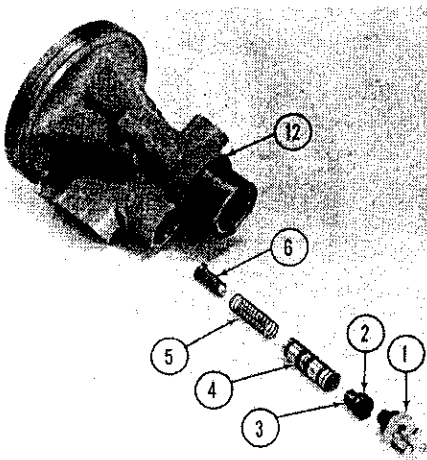
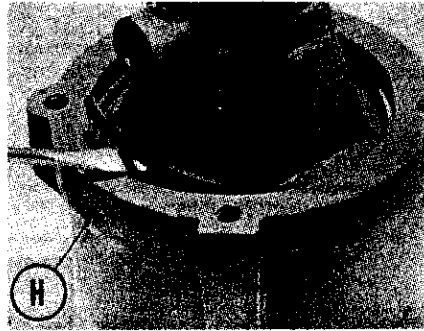
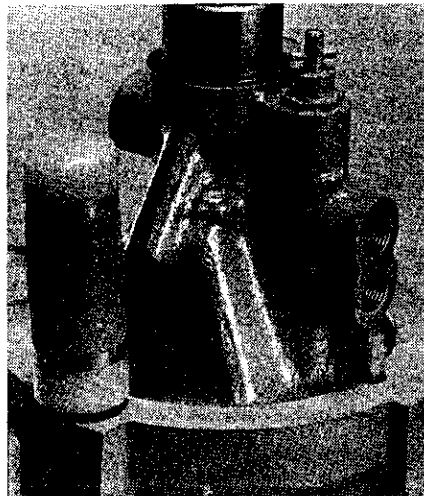
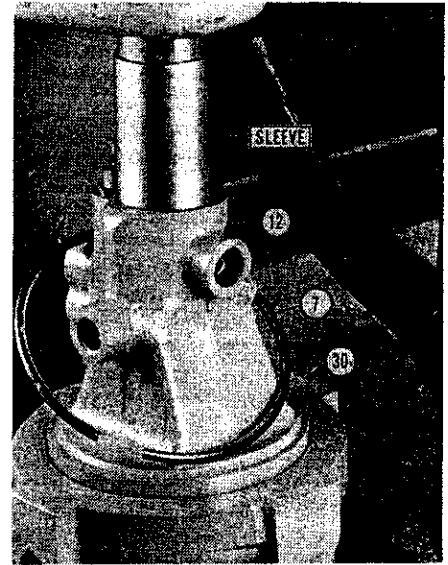

Fig. 48—Exploded view of Hydramotor housing and blocking valve components. Blocking valve can be removed without disassembly of Hydramotor.
Fig. 49—To remove cover retaining snap ring, drive pin punch through hole in cover to disengage snap ring from groove.
Fig. 50—In event coil pressure plate spring does not push cover from housing, tap alternate mounting lugs on cover with soft face mallet as shown above.
Fig. 51—Using sleeve and arbor press to push housing into cover to allow installation of the cover retaining snap ring (7).
Reverse removal procedure to reinstall the steering motor unit using new "O" rings when reconnecting fluid lines. Before reinstalling fuel tank, run engine on nurse tank to fill and bleed the power steering system as outlined in paragraph 54. After being sure no fluid leakage is occurring, reinstall fuel tank. **CAUTION:** The blocking (reaction) valve adjuster (1—Fig. 48) must be in position shown in Fig. 50 before reinstalling fuel tank.
60. R&R BLOCKING SPOOL (REACTION) VALVE. The blocking spool valve and related parts can be removed and reinstalled after the Hydramotor steering unit has been removed as outlined in paragraph 59. Refer to Fig. 48 and proceed as follows:
To reassemble, install parts in bore of housing (12) as shown in exploded view, renewing the "O" ring (2) on plug (3) and tightening adjuster nut to a torque of 10-15 Ft.-Lbs. Note: The adjuster (1) is not accessible after tractor is fully assembled; thus, the adjuster must be in position shown in Fig. 50 when unit is being reinstalled.
With unit removed from tractor as outlined in paragraph 59, check to see that end gap of snap ring is near hole in cover as shown in Fig. 49; if not, bump snap ring into this position with hammer and punch. Insert a pin punch into hole and drive punch inward to dislodge snap ring from groove. Hold punch under snap ring and pry ring from cover with screwdriver. Usually, the coil spring (27—Fig. 46) will push housing from cover; if not, bump cover
loose by tapping around edge with mallet as shown in Fig. 50.
To reinstall the cover retaining snap ring, housing must be held in cover against pressure from spring. It is recommended that the unit be placed in an arbor press and the housing be pushed into cover with a sleeve as shown in Fig. 51. CAUTION: Do not push against end of shaft (14—Fig. 46). Place snap ring over housing before placing unit in press. Carefully apply force on housing with sleeve until flange on housing is below snap ring groove in cover. Note that lug on housing must enter slot in cover. If housing binds in cover, do not apply heavy pressure; remove unit from press and bump cover loose with mallet as shown in Fig. 50. When housing has been pushed far enough into cover, install snap ring in groove with end gap near hole in the cover as shown in Fig. 49.